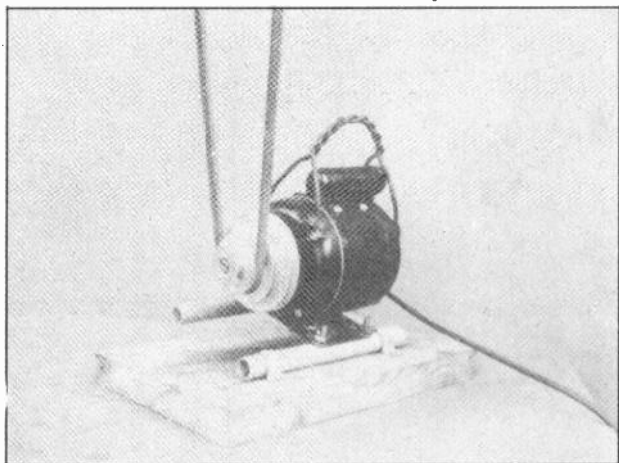

Figure 28.—This motor base is kept in place by pipe straps. Note that the driven equipment is at a high angle above the motor.
2. Mount pulley on shaft .....	Push 5" 4-step V-pulley on shaft of motor. Tighten set screw. See figure 28.
See figure 26. Remove the insulation from both ends of the wires to form hooks. Flatten these hooks into washer form. Twist the 2 pieces of wire tightly together until about 6" extend on each end. Fasten wire to motor to form handle as shown in figure 28.
6. Make motor rail-holders ..... Fasten two  $\frac{3}{4}$ " pipe straps to a piece of 2" plank as shown in figure 28. This type holder will allow the motor to be slipped into place and will keep the motor in place even when the driven equipment is directly overhead.